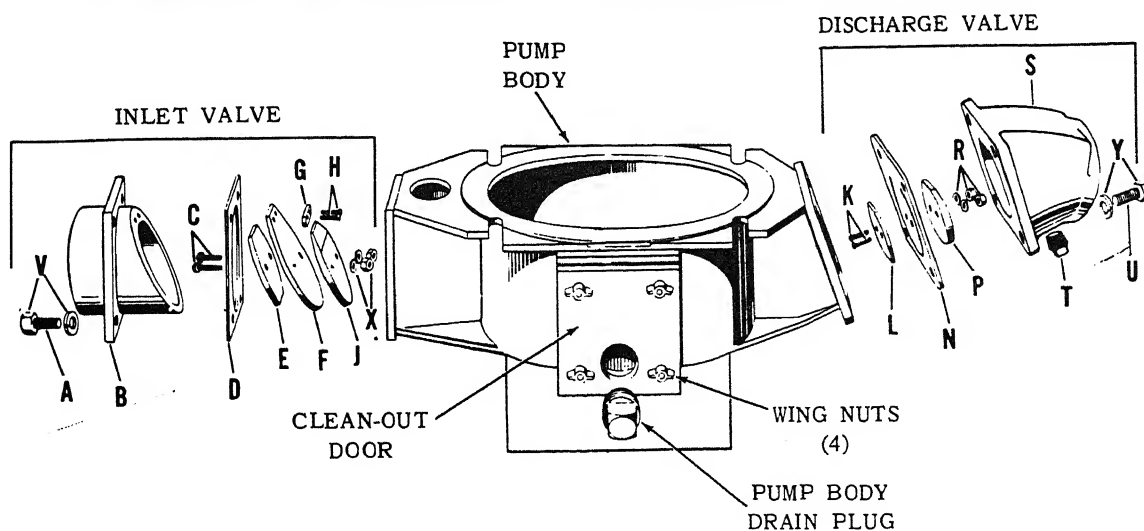

FIGURE 3A
19. Inlet Valve Repair (Fig. 3A)
- A. With the suction line off (disconnected) and pump drained, or if working conditions permit, suction line may be left on the inlet valve, remove four $\frac{5}{8}$ " nuts and washers (V) from studs (A). Pull inlet valve free from pump body. Do not damage gasket (D). Save for reuse.
- B. Remove two brass screws (H), and keeper (G). Save for reuse. Remove two brass screws (C) with nuts and washers (X). Loosen and remove washer (E) and weight (J).
- C. With new rubber flap valve (F), reassemble flap valve assembly. Replace inlet valve assembly with gasket (D) on pump body and secure with the four $\frac{5}{8}$ " nuts and washers (V) on studs (A).
20. Discharge Valve Repair (Fig. 3A)
Reference for Fig. 3A